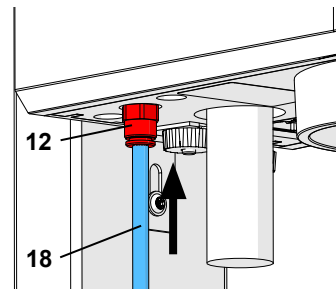

Fig. 5-a
In previous devices, the inlet filter (13) was situated outside the device (Fig. 5-b). In these cases, push the compressed air horse (18) onto the inlet filter (13). There will be a slight resistance to overcome when attaching.